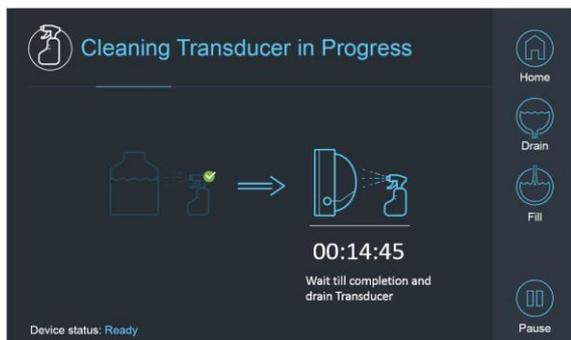

Fig. 3A: "Cleaning Transducer in Progress" Screen Fig. 3B: "Cleaning Transducer Complete" Screen
- Start the "Cleaning Transducer" timer by pressing the "Start" button  on the Screen (Figure 3A) or on the Water System Remote Controller